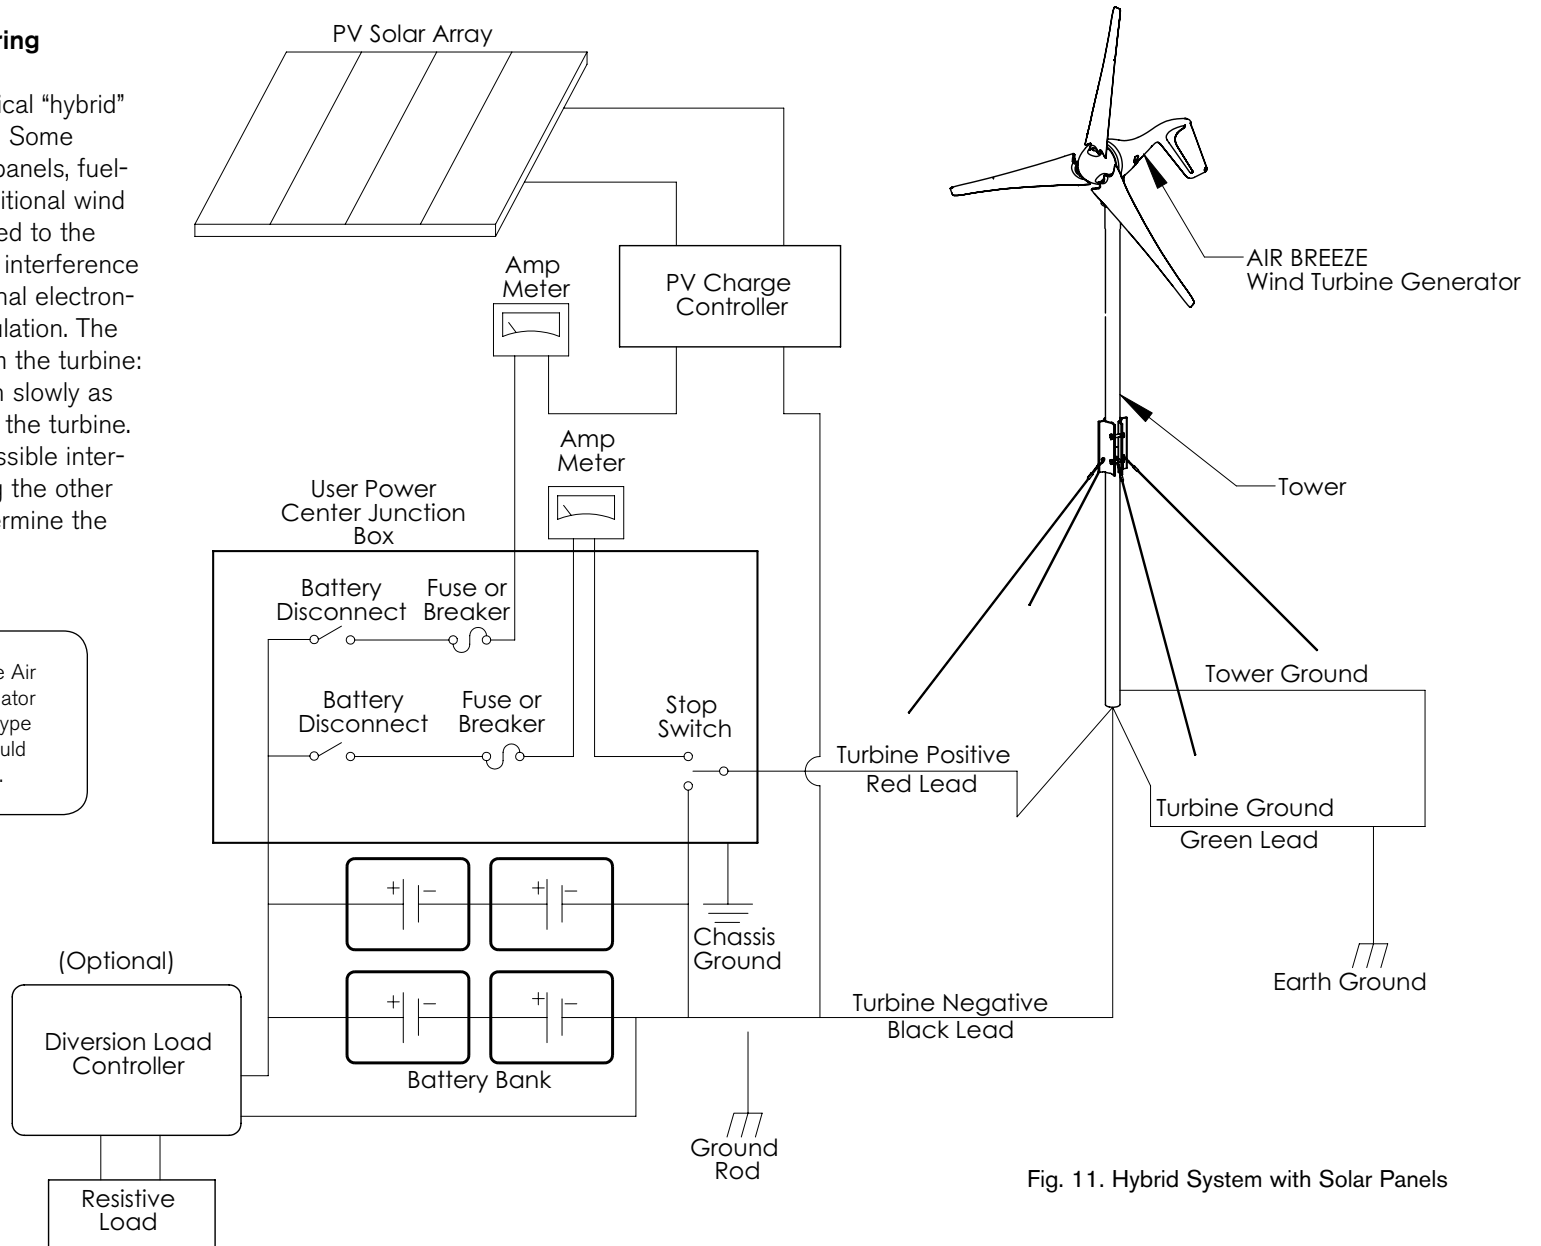

Fig. 11. Hybrid System with Solar Panels
**Fig. 11** represents a typical “hybrid” system with solar panels. Some charging sources (solar panels, fuel-powered generators, additional wind generators etc.) connected to the same system may cause interference with the Air Breeze internal electronics and result in pre-regulation. The interference will not harm the turbine: it will just cause it to spin slowly as if “braked” or it may stop the turbine. If this occurs, test for possible interference by disconnecting the other charging sources to determine the possible cause.